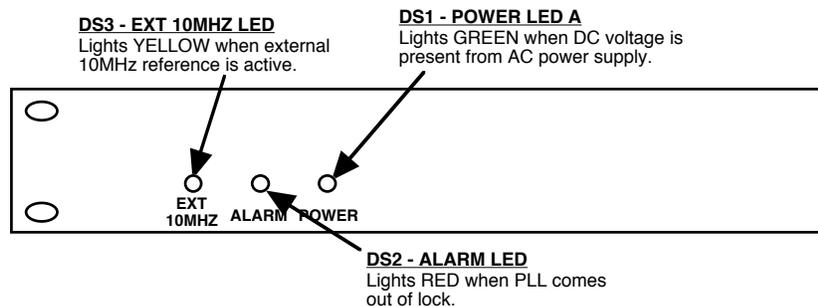

FIGURE 2.2 2116-126 Front Panel Controls and Indicators
2.3 Front Panel Indicators - Figure 2.2 shows the front panel indicators.
4. Be sure DS1 (green, DC Power) is on and DS2 (red, Alarm) is off (Figure 2.2).
6. If EXT is selected or AUTO is selected and there is a 10MHz, 3 dBm signal at J2, check that DS3 (yellow, Ext 10MHz) is on (Figure 2.2).